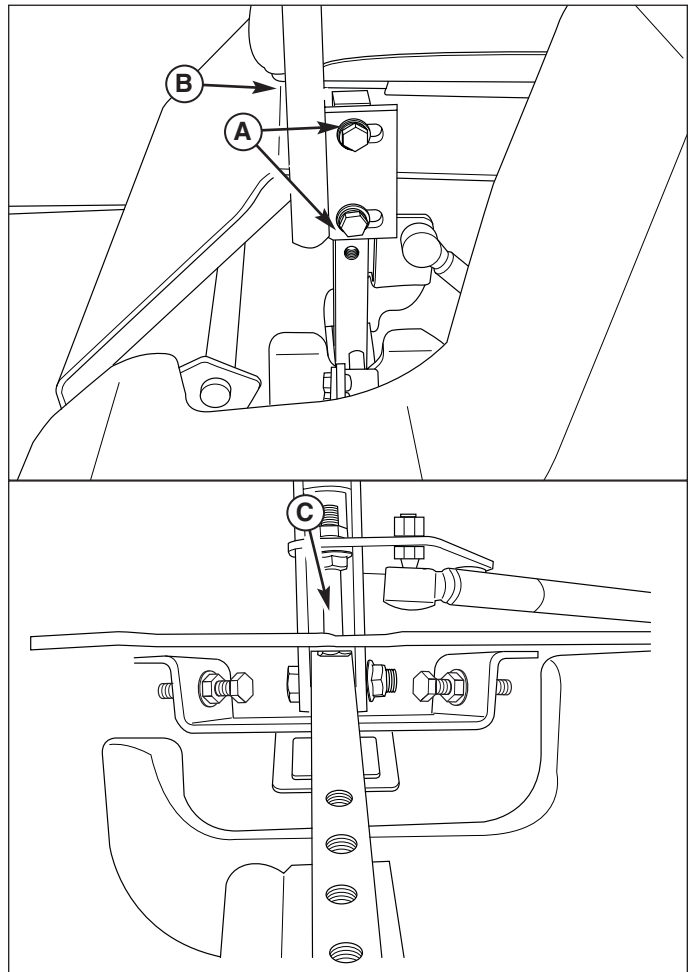

Figure 21. Control Lever Adjustment
Loosen the mount bolts (A, Figure 21) and pivot the ground speed control lever(s) (B) to align with each other.